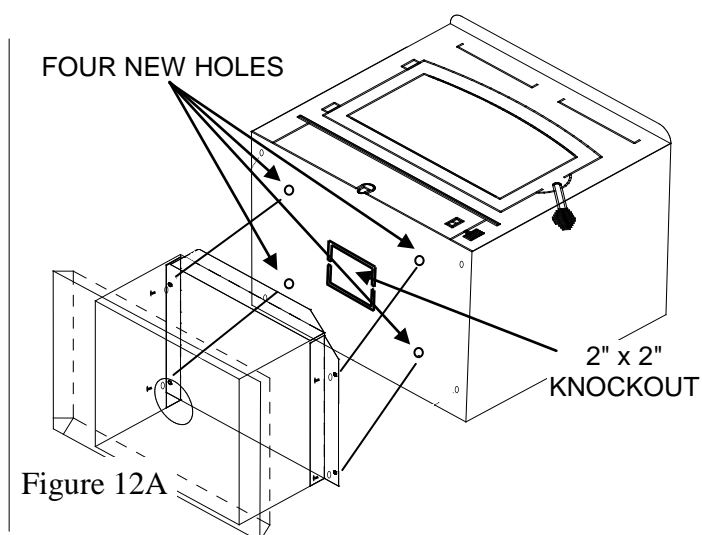

Figure 12A
6. **(Pedestal Kit):** If pedestal kit is being used and outside air is required see *Out Side Air Installation*. Open freestanding kit and obtain stand. Place stand against bottom of heater (angle side to heater). Center stand front to rear and also center stand left and right. Mark screw locations on bottom of stove through outer holes of stand mounting angles. Set stand aside and drill four 7/32" holes in heater bottom. Before attaching heater to stand, take a large flat screwdriver or pliers and remove 2" x 2" knockout on bottom of unit. (See Figure 12A). Then mount stand to bottom of heater with screws provided. (See Figure 12A).
7. Obtain four (4) 3/16" self-tapping screws and secure stand to heater.